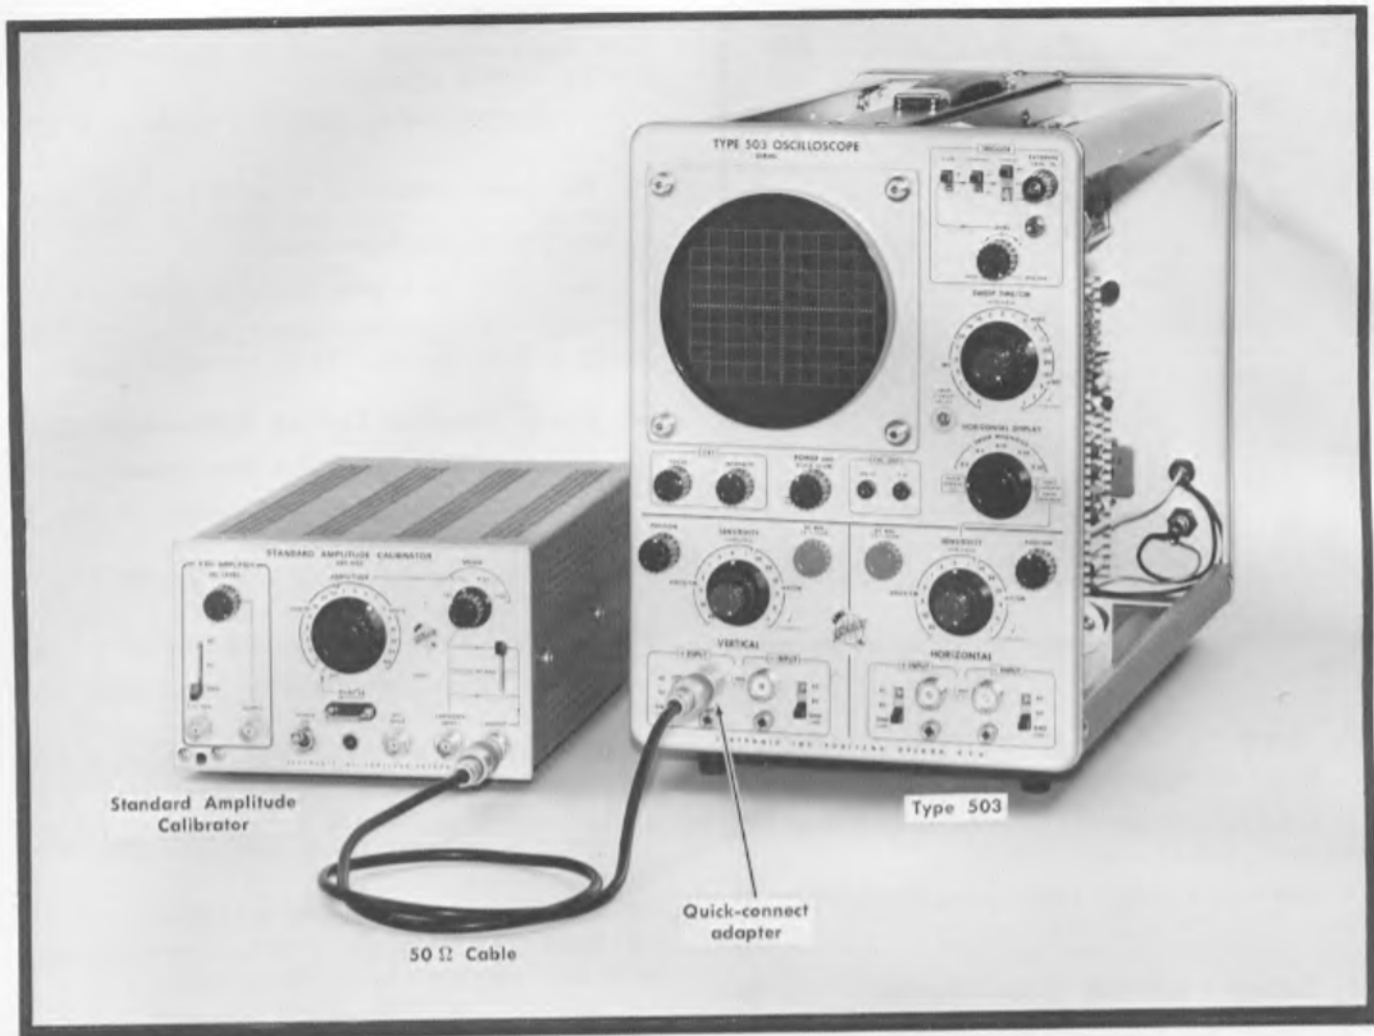

Fig. 6-11. Test setup for Vertical and Horizontal amplifier gain adjustments.
- The test setup is shown in Fig. 6-11.
- Connect the Standard Amplitude Calibrator output through a BNC to UHF adapter, a 50 Ω cable and quick-connect adapter (item 15 of Recommended Equipment) to the Type 503 VERTICAL +INPUT connector, and change the VERTICAL +INPUT switch to DC.